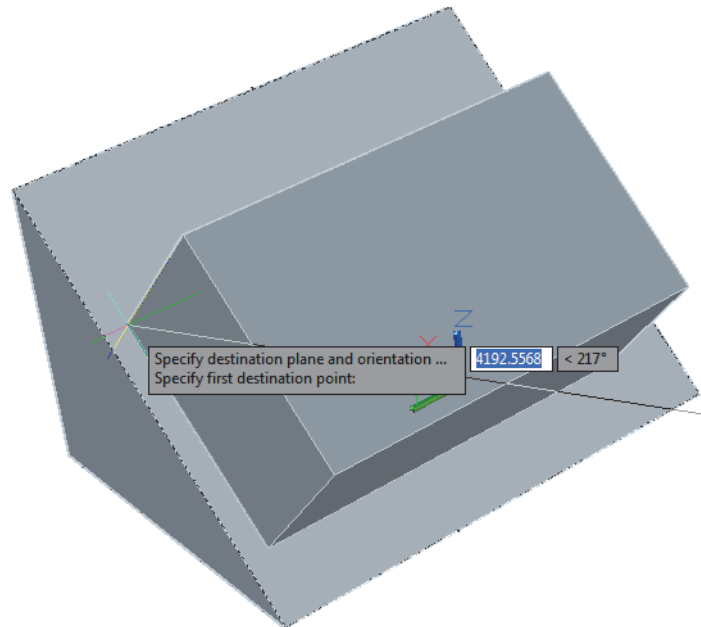

Figure 5–16
4. Hover the cursor over the destination object. The source object moves dynamically with the cursor. As you cross a face, the source object automatically aligns with the face, as shown in Figure 5–16.